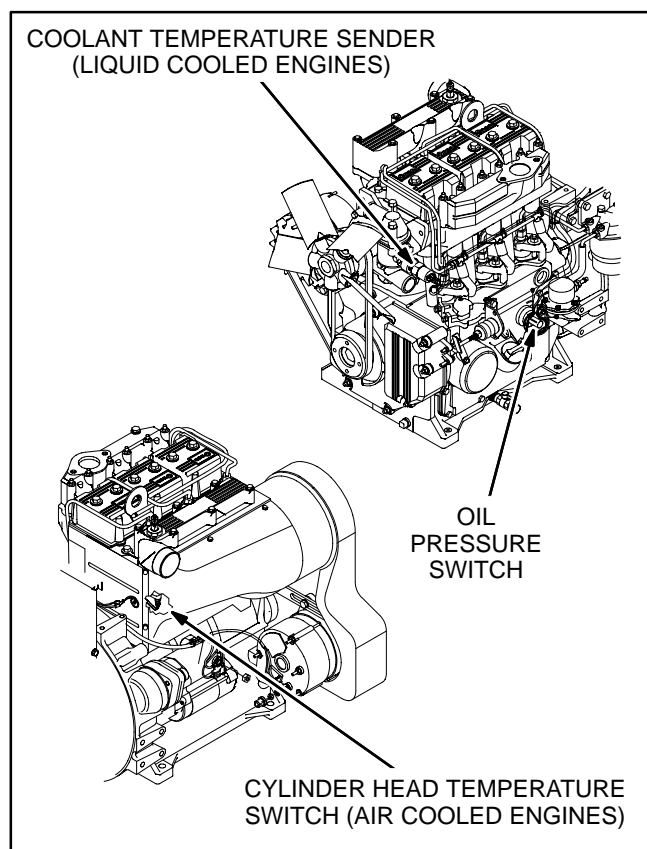

FIGURE 3-3. ENGINE SHUTDOWN SWITCHES
Figure 3-3 illustrates the locations of the engine shutdown switches. Use pipe thread sealant when replacing a safety switch.
1. High engine temperature or faulty safety switch.	<p>A. Check the engine coolant level, repair any leaks and fill to the proper level (liquid cooled engines).</p> <p>B. Remove obstructions to air flow and clean and service the cooling system as required to restore full cooling capacity.</p> <p>C. Replace high engine temperature switch S2 if there is electrical continuity across the switch terminals at room temperature. (Air cooled engines have a 260° F [127° C] head bolt mounted temperature switch [Figure 3-3].)</p>